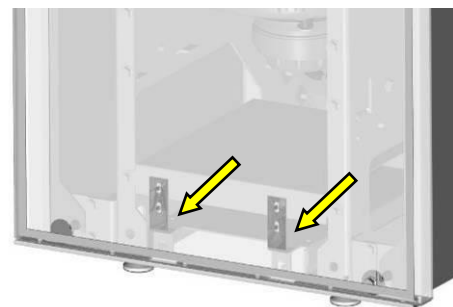

**Fig. 5: front panelling screws**
3. Remove the fastening screws of the panelling (Fig. 5).